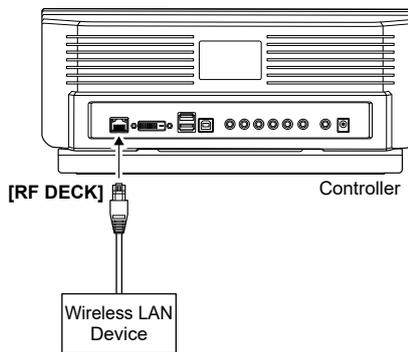

Figure 09-39. Connecting the Wireless LAN device
- 10). Connect a wireless LAN device to the [RF DECK] port of the Controller. (Figure 09-39)